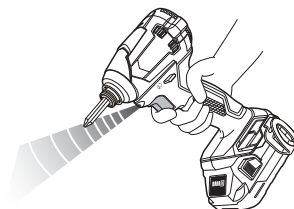

Fig. 14
11. LED light warning signal (Fig. 14)